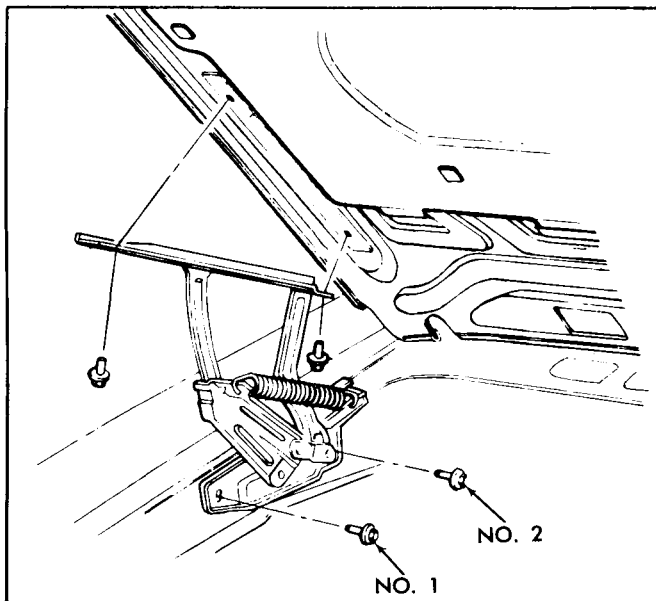

Fig. 11-1 Hood Attachment Typical
Slotted holes are provided at all hood hinge attaching points (Fig. 11-1) for proper adjustment; both vertically and fore and aft.
1. Loosen front end of hinge mounting bracket to fender at bolt no. 1 (Fig. 11-1).
Hood hinges (Fig. 11-1) are fastened to the fender panel. Double assist overcenter springs are used (one at each hinge), one end of which is fastened to the front arm of the